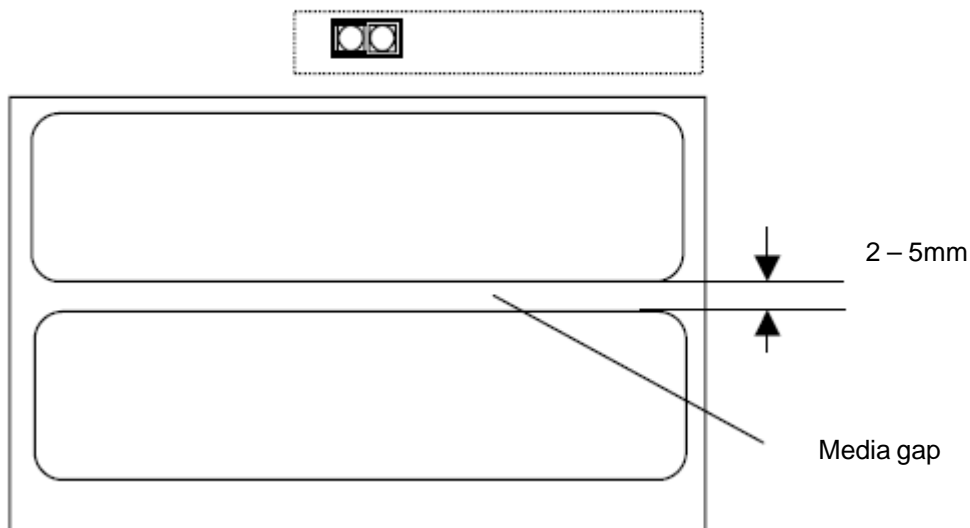

Figure 7-3
4. Remove the media sensor cover and slide the media sensor to the correct position (refer to Figure 7-3, Figure 7-4 and Figure 7-5).